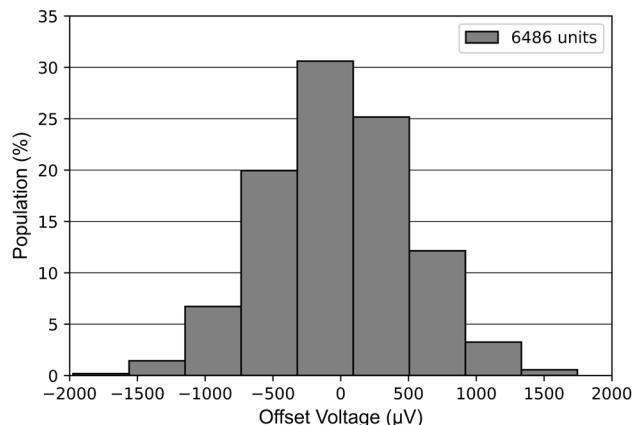

Figure 7-1 Offset Voltage Production Distribution
- External components should be located as close to the device as possible, as shown in Figure 7-1. Keeping RF and RG close to the inverting input minimizes parasitic capacitance.